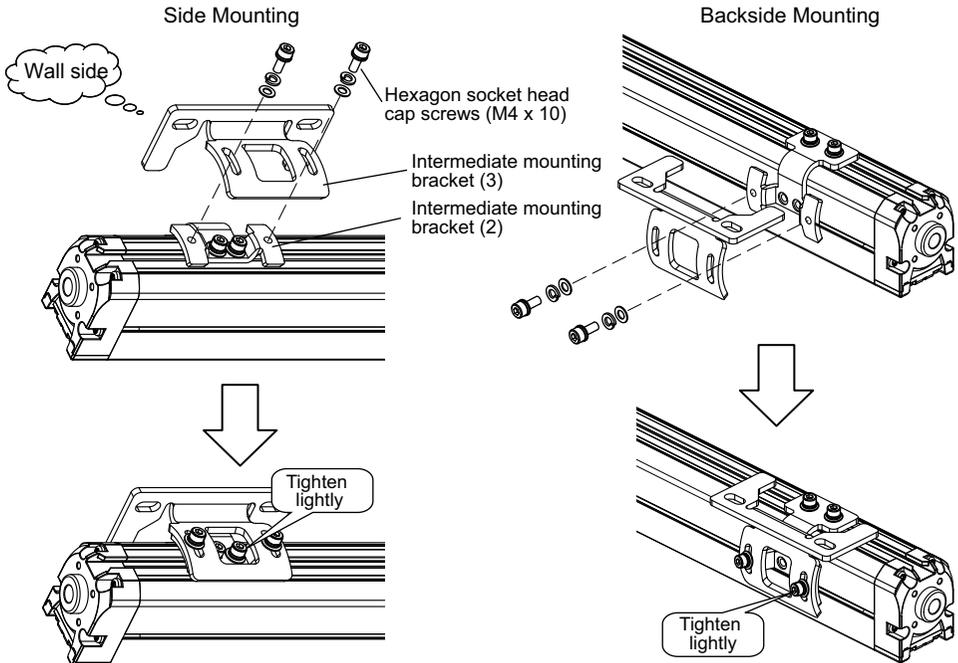

Figure 8
- Fasten the intermediate mounting bracket (2) and intermediate mounting bracket (3) lightly using two attached hexagon socket head cap screws (M4 x 10). (Figure 8)